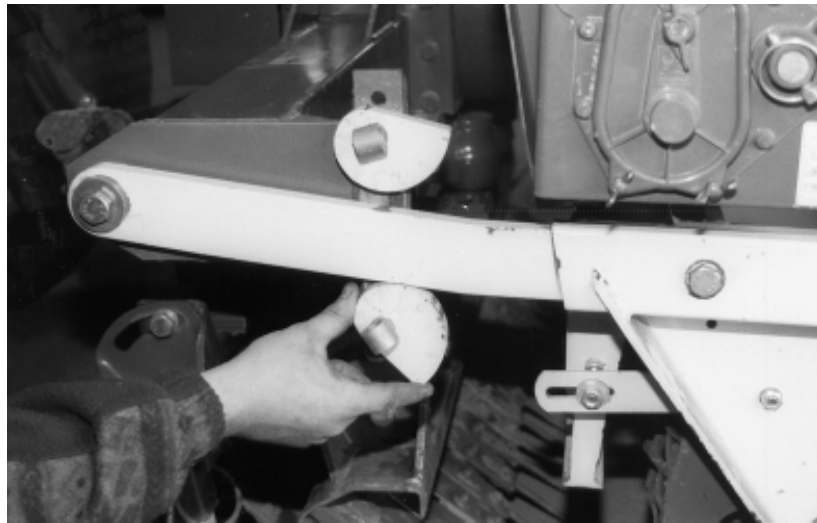

fig. 22
- Turn the lower eccentrics until the support bars are blocked (Fig. 22/1).